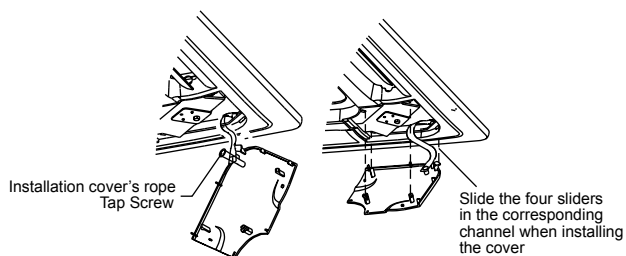

Fig.5-16
- You can modify the height of the indoor unit through the openings on the panel's four corners, if the lift of the indoor unit and the drainpipe is not influenced (Refer to Fig.5-16-right).
- Fasten the rope of installation cover on the bolt of the installation cover. (Refer to Fig.5-16-left)
- Press the installation cover into the panel slightly. (Refer to Fig.5-16-right)